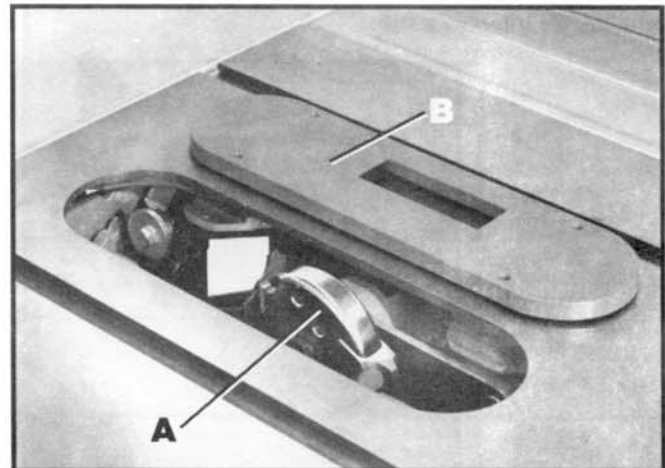

Fig. 63
The moulding cutterhead (A) Fig. 63, is assembled to the saw arbor in the same manner as the saw blade. The guard, splitter and anti-kickback finger assembly cannot be used when moulding and must be removed from the saw. In place of the guard, auxiliary jigs or fixtures and push sticks and feather boards should be used. Also, the accessory moulding cutterhead table insert (B) Fig. 63, must be used in place of the standard table insert.